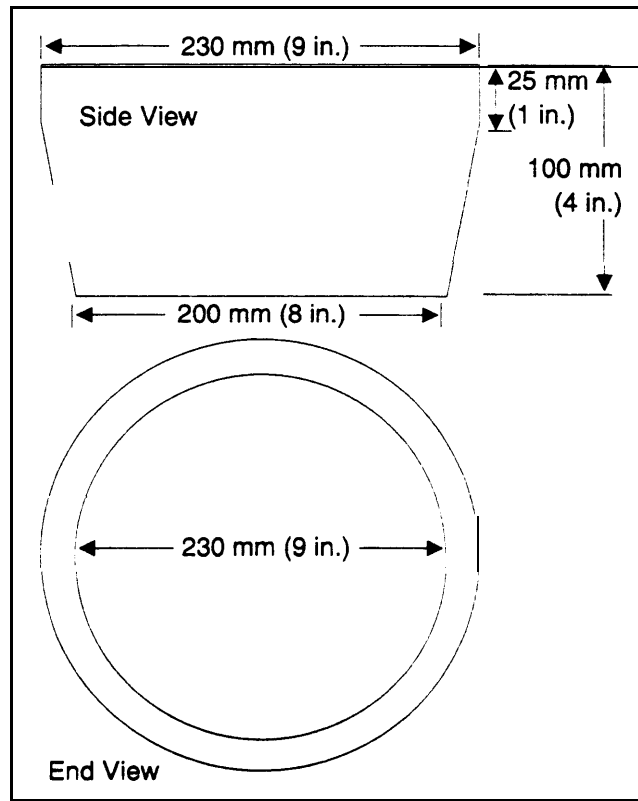

Figure 4-2: Head probe.
- e. *Head Probe (fig 4-2)\*.*